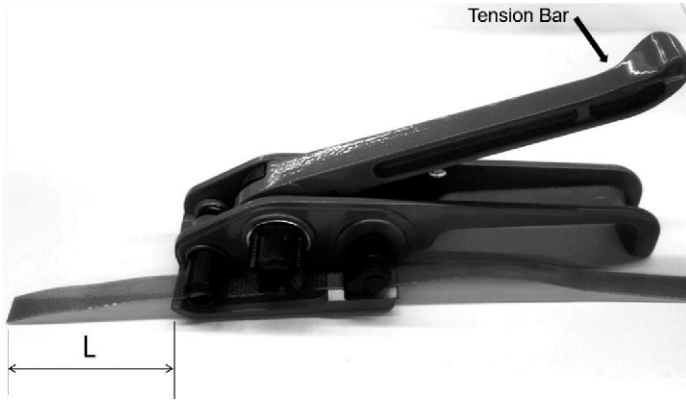

FIG. 1
1. Strapping tensioner see FIG. 1, Press the tension bar and load strapping, $L \geq 3\text{inch}(8\text{cm})$.